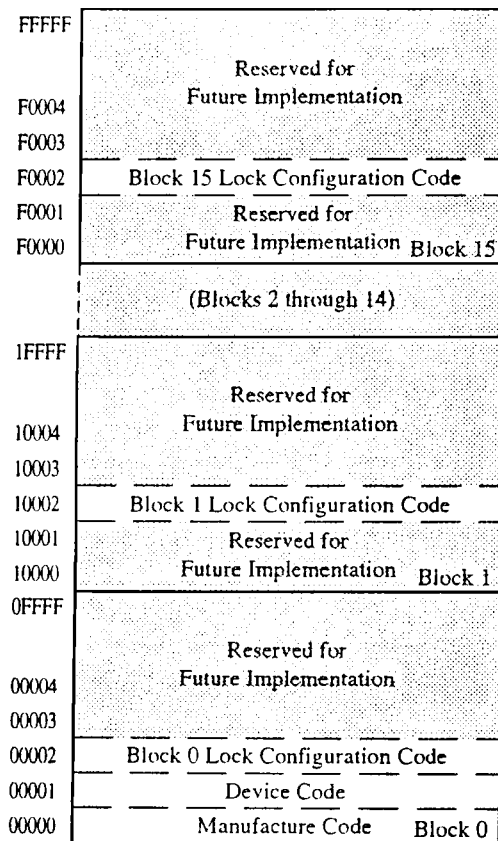

Figure 2. Device Identifier Code Memory Map
The read identifier codes operation outputs the manufacturer code (Block 0), device code (Block 0), and block lock configuration codes (for each block), see Figure 2. Using the manufacturer and device codes, the system CPU can automatically match the device with its proper algorithms. The block lock codes identify locked and unlocked blocks.
IA = Identifier Code Address; see Figure 2.
The host initiates the identifier code operation by writing the Read Identifier Codes command. Following the command write, read cycles from addresses shown in Figure 2 retrieve the manufacturer, device and block lock configuration codes (see Table 3 for identifier code data). To terminate the operation, write another valid command. Although Table 3 lists the device code as A6, this family of Sharp's ID34ZC10 Flash Memory Miniature Card could also have device codes A7 or AA. Host software should check for all three cases for compatibility with future cards.
1. × selects the specific block lock configuration code to be read. See Figure 2 for the device identifier code memory map. The least significant address is A1.